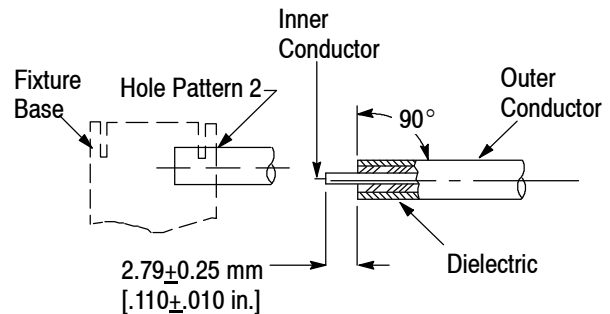

Figure 2
1. Insert the squared end of the cable into Hole Pattern 2 of the fixture base. See Figure 2.